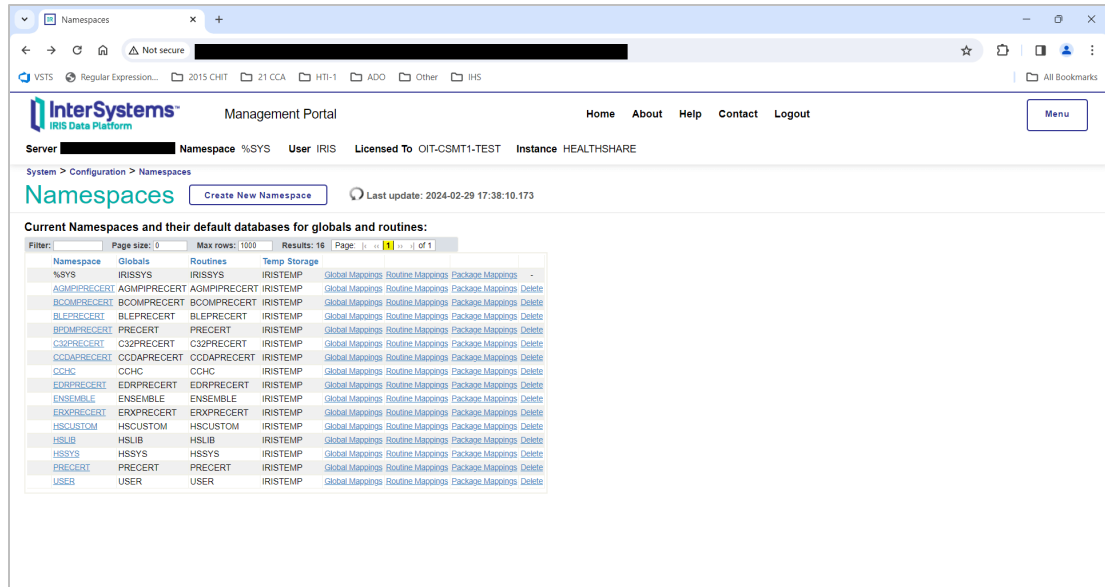

Figure 4-4: Select **Package Mappings**
1. On the **Namespaces** page, click **Package Mappings** in the RPMS namespace row to display the **Package Mappings** page, as shown in Figure 4-4.